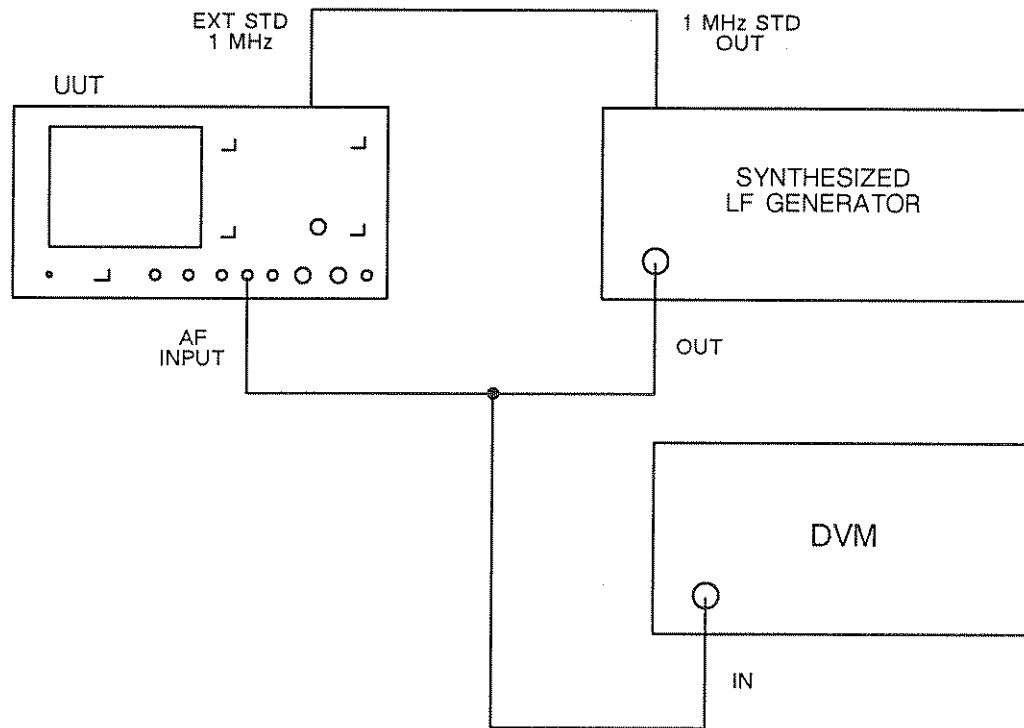

Fig. 5-11 Test equipment connections for AF frequency meter accuracy and sensitivity
- (1) Connect the equipment as shown in Fig. 5-11.
- (2) Set the UUT to audio test, distortion off, 50 kHz LOW PASS filter, AC coupled.
- (3) Set the synthesized LF generator to give a 20 kHz sinewave at 50 mV RMS.
- (4) Set the DVM to read AC and RMS.
- (5) Adjust the LF synthesizer output level until the DVM indicates 50 mV.
- (6) Check that the frequency meter on the UUT indicates the frequency set on the synthesizer ± 1 digit ± 0.1 Hz/0.02%.
- (7) Repeat the above for random LF synthesizer frequencies between 20 Hz and 20 kHz.